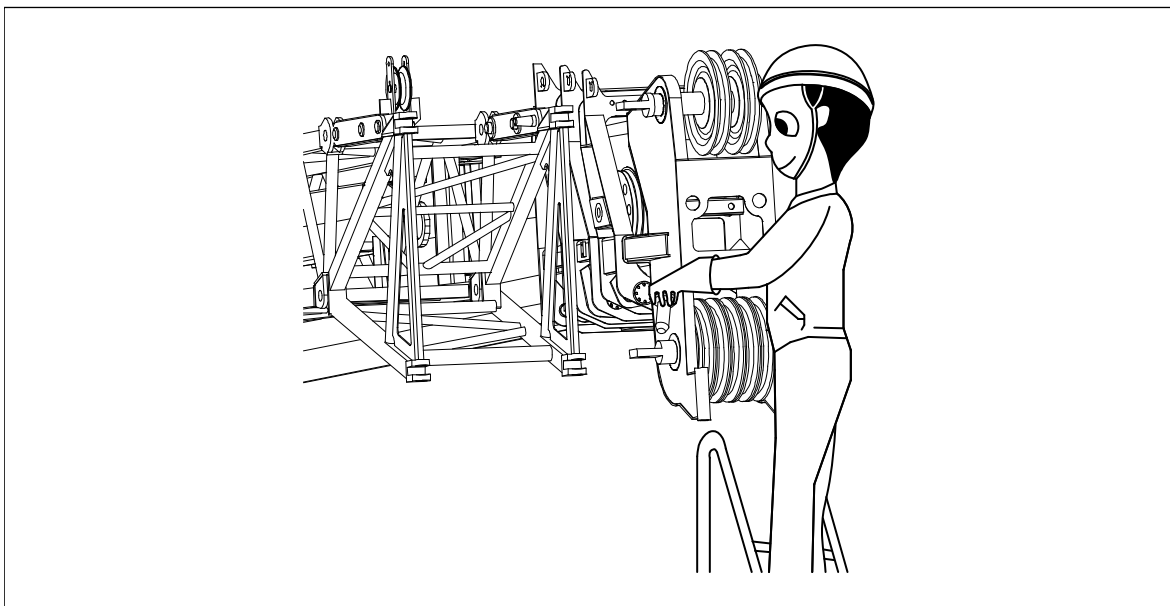

Figure 7-47 Use a Stand
- Fully retract the boom. Move the jib to the front of the crane and set the boom to the -3° position. You must use the correct work stands (ladders, stairs, etc.) when you assemble or disassemble the jib. Refer to Figure 7-47.